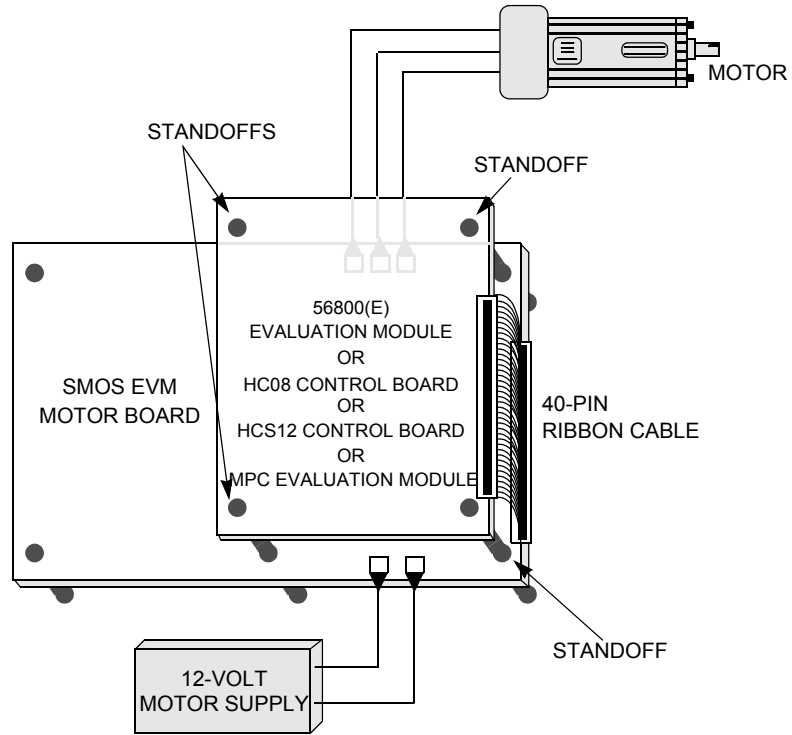

Figure 1-3 SMOS EVM Motor Board Setup
- Standalone operation of the board should be allowed only with use of an insulative pad or standoffs as shown in **Figure 1-3**.
Setup and connections for the SMOS EVM motor board are straightforward. The SMOS EVM motor board connects to a Motorola embedded motion control series control board via a 40-pin ribbon cable. The motor's power leads plug into one of the output connectors J2 or J4 or FASTON type (J5 J7 J8). **Figure 1-3** depicts a completed setup with control board or module.
1. Mount 4 standoffs to the SMOS EVM motor board at the locations indicated in **Figure 1-3**. Step 1 and step 3 are optional when making connections to DSP control boards such as the DSP56F8xxEVM that can be placed flat on a bench next to the SMOS EVM motor board.